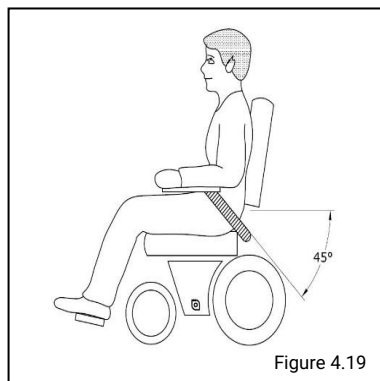

Figure 4.19
**Check that the hip belt is correctly adapted to the wheelchair user. The belt should lie firmly over the hip at an angle of approx. 45° (fig 4.19).**